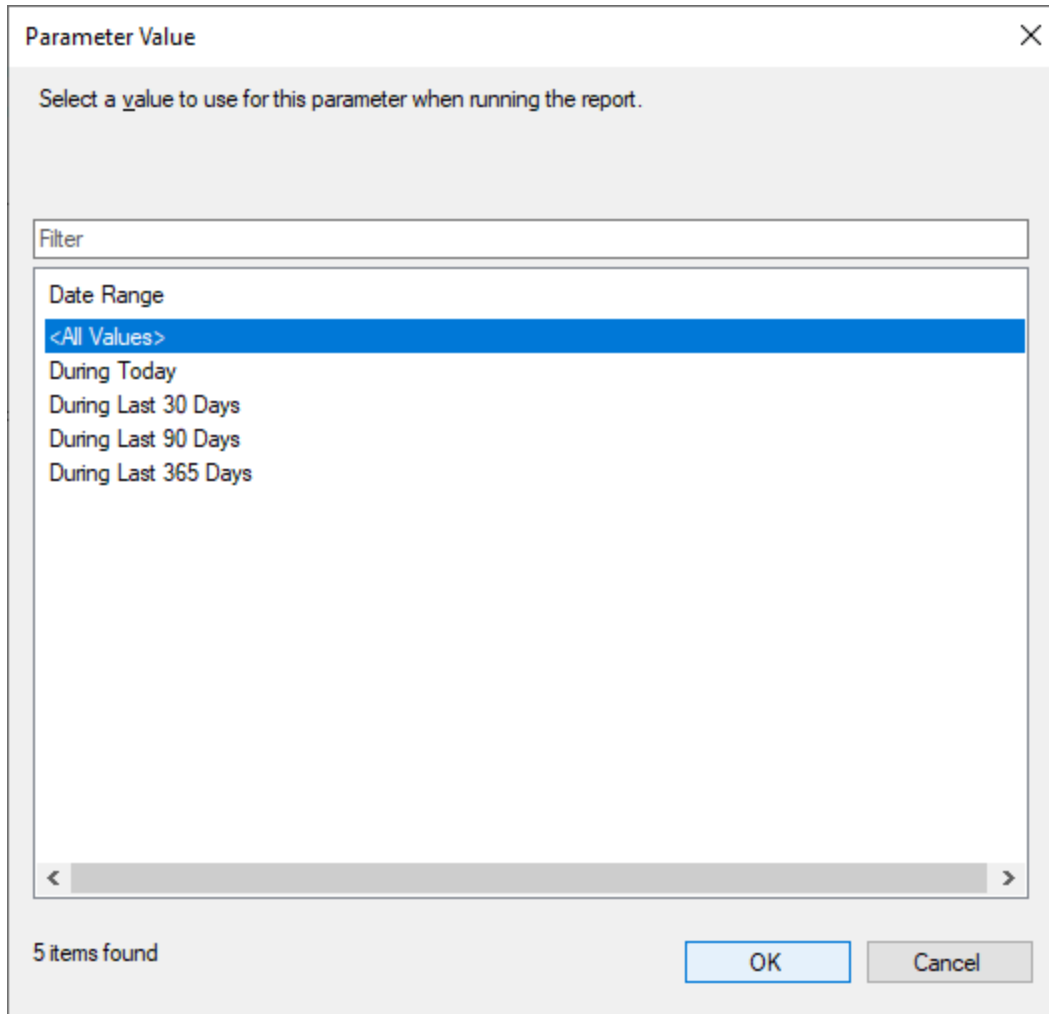

Figure 162: Choosing Date Range
- 3) Choose Date Range as shown in Figure 162